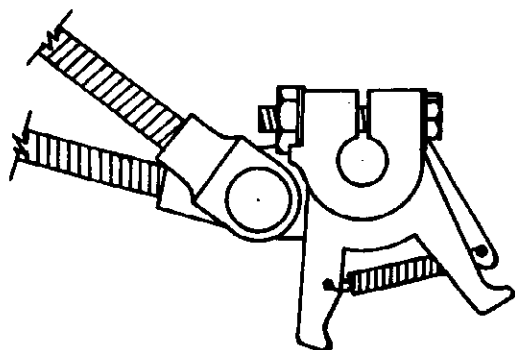

Fig. 6
Blade finger (42) looks like Fig. 6. A visual spacing of approximately $\frac{1}{64}$ between the rounded edge of the toggle assembly and the Push-off Blade finger when viewed directly from the bottom of the record changer is required. See Fig. 6. Since these two parts lie on different planes, this adjustment must be made by observation only.
7. While holding the Push-off Blade and Record Shelf Assembly tight against the Housing (6), push the Index Toggle Assembly (41) against the spacer (40) and tighten the lock bolt.
8. Tighten the Push-off Blade bracket lock bolt, leaving approximately $\frac{1}{64}$ " clearance between the shoulder of the Record Shelf shaft and the Push-off Blade finger bracket (42).
1. Turn the Record Shelf (4) to the 12" position.
2. Trip the Reject control and rotate the Turntable until the Push-off Cam Follower reaches the highest point on the Main Cam ("A" of Fig. 6).
3. Loosen the Push-off Blade finger (42) clamp bolt.
4. Push the Push-off Blade forward as far as possible and hold the Push-off Blade and Record Shelf assembly downward tight against the housing (6).
5. Tighten the Push-off Blade finger clamp bolt (42), leaving $\frac{1}{64}$ " vertical clearance between the shoulder of the Record Shelf shaft and the Push-off Blade finger (42).